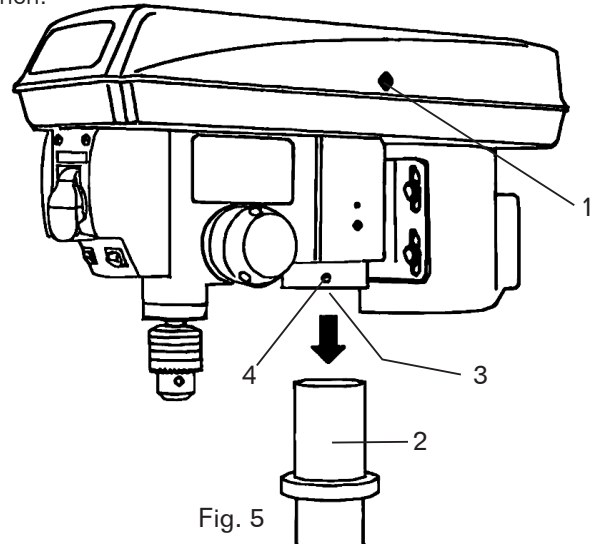

Fig. 5
### DRILL PRESS HEAD TO COLUMN (FIG. 5)
1. Carefully lift the drill press head assembly (Fig. 5 - 1) and position it over the column (Fig. 5 - 2).
2. Place the mounting opening (Fig. 5 - 3) on the drill press head over the top of the column. Make sure the drill press head is seated properly on the column.
4. Tighten the set screw (Fig. 5 - 4) using the included hex wrench.